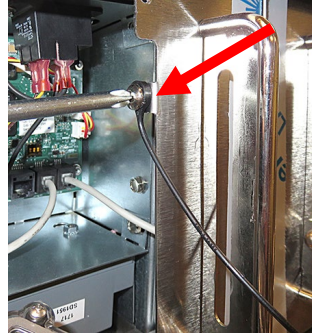
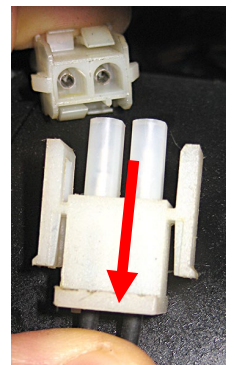

Figure 19
Figure 20
22. Remove the bezel by removing the two 5/16" screws on the bottom of the bezel (see Figure 19) and tilting the bezel up from the bottom and lowering towards the front of the fryer (see Figure 20).